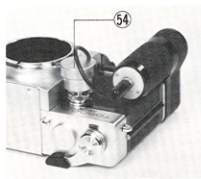

Fig. 69
- (a) Screw the solenoid release54 into the shutter release button76. Connect the cord which comes from solenoid release with the auto winder (See Fig. 69)